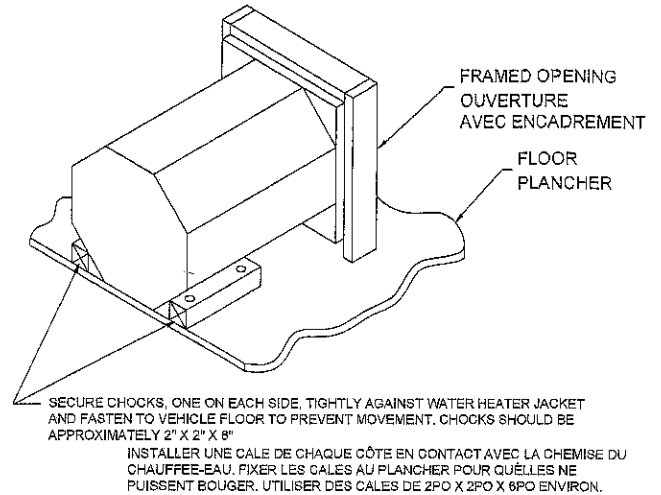

Figure 1A
- C. Install chocks, one on each side of water heater, as illustrated in Figure 1A.